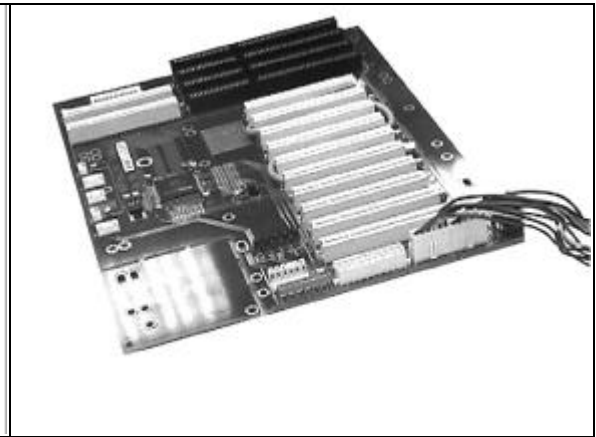

Fig. 2
1. If you use AT power supply, please apply the P8/P9 connector over P8/P9 connector (**Fig. 2**).